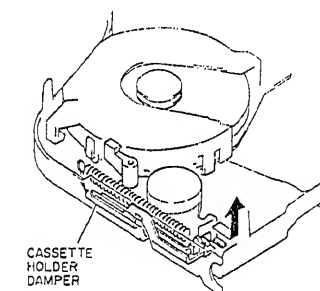

Fig. 2-93
1. Remove the cassette holder damper in the direction of the arrow. (See Fig. 2-93)